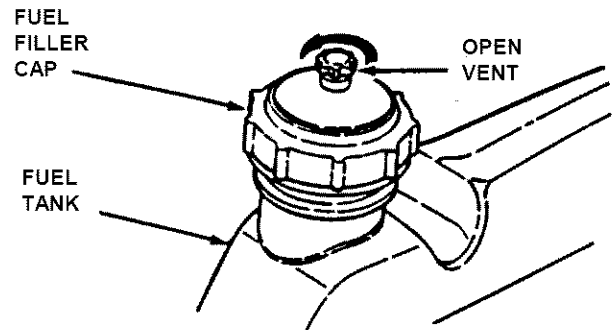

FIGURE 2.3
**2.1.6.** Add fuel to tank of the YARD CRUISER outside where fumes can safely dissipate. Make sure fuel filler cap is tight and vent is open after refueling. See Figure 2.3. Refer to engine owner's manual for fuel specifications.
4. Open vent on fuel filler cap by turning counterclockwise. **IMPORTANT:** Failure to open vent on the fuel filler cap can cause engine to stall. See Figure 2.3.
1. Make sure fuel cap is on tight. Start engine and allow it to run until engine runs out of fuel. Close vent on fuel filler cap. See Figure 2.3.